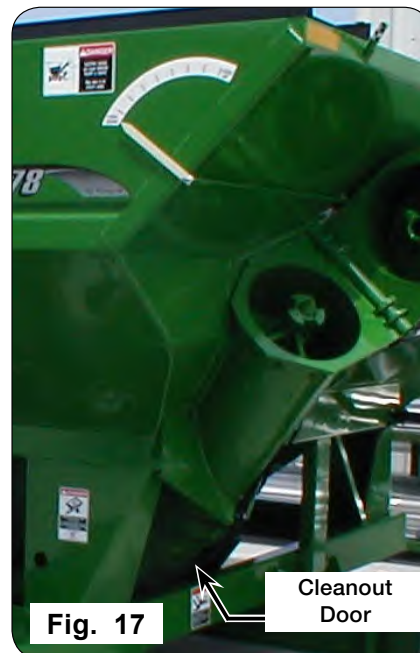

Fig. 17
7. Fully open flow door and auger cleanout door to remove any remaining grain and to allow moisture to drain (Fig. 17).